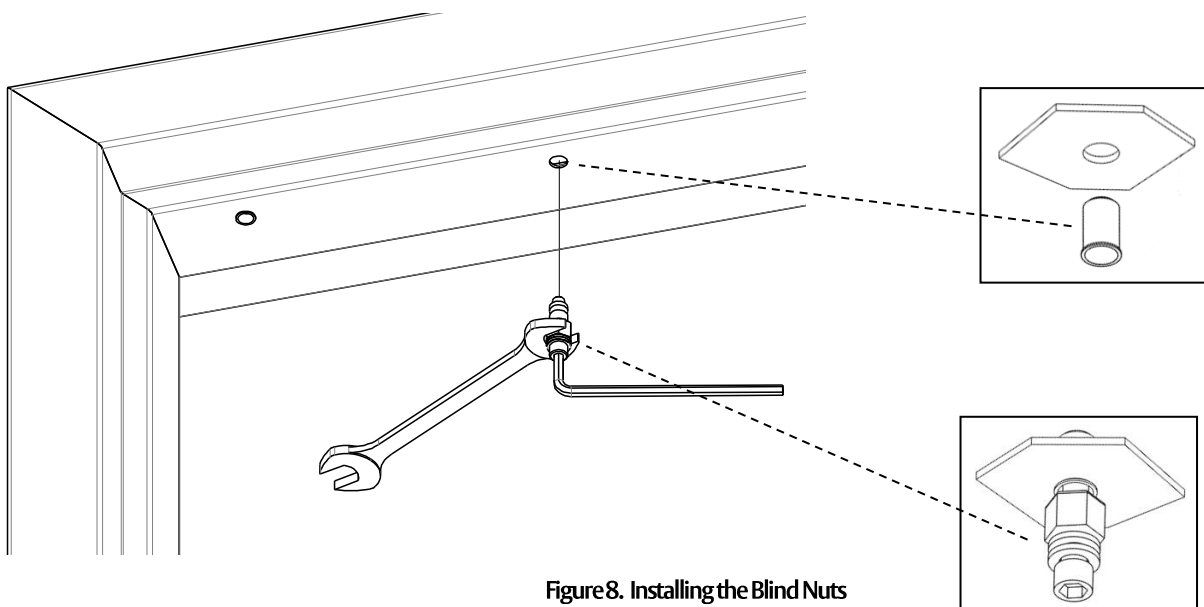

Figure 8. Installing the Blind Nuts
2. INSTALL blind nut into each $\frac{3}{8}$ " diameter hole using the provided tool (see Figure 8, "Installing the Blind Nuts").